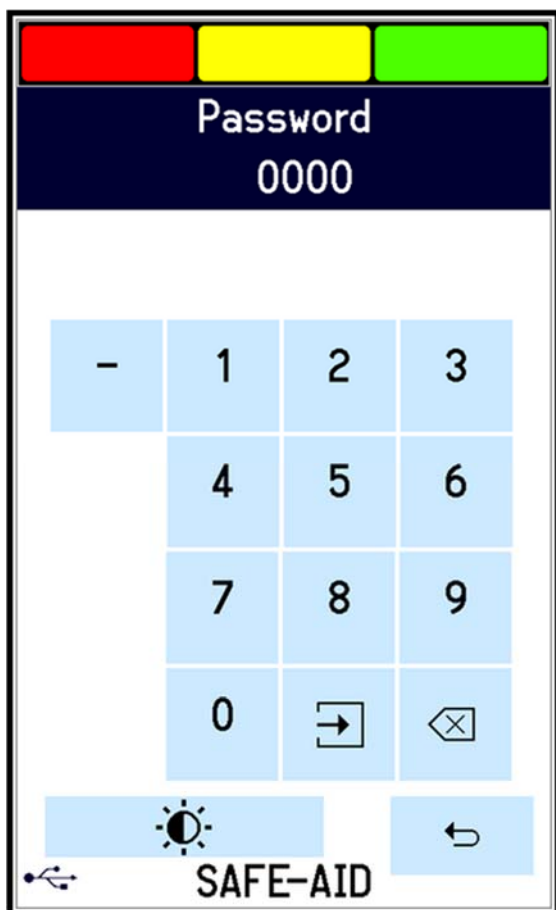

Figure 25
PROGRAM & REEVING LOCKOUT - FIGURES 25, 26, 27 & 28
1. Press the top left-hand corner and the **Password** screen will be displayed (figure 25).
4. **Lockout Disabled** Select **No** - the screen will to return back to the Program Lockout screen and **Lockout Disabled** will be displayed in the selected button (figure 25). Repeat this for Program 1 & 2 if all programs are to have access. If only one program is locked the other will display **Not Used**
2. Enter the four digit password [- - -] followed by the **Enter** button, the Program Lockout screen will be displayed (figure 25).